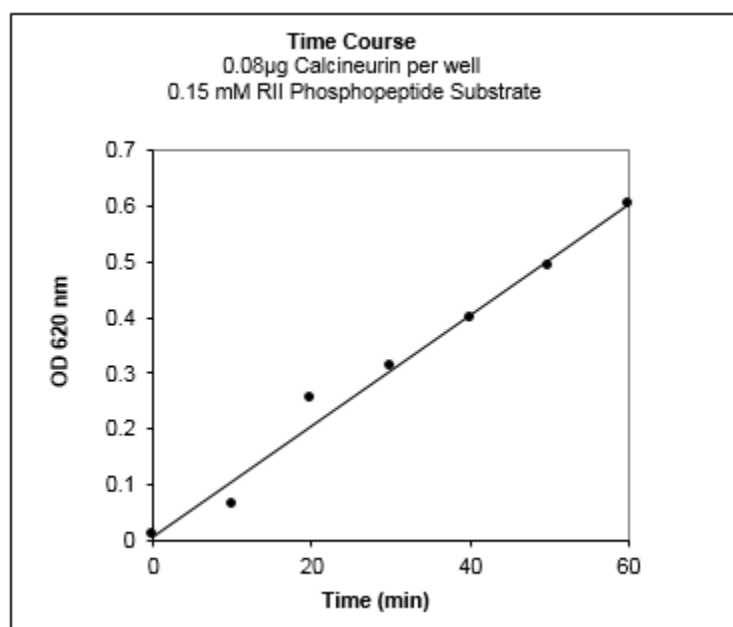

Figure 2. Time Course of Phosphate Released by Calcineurin
2. Plot OD_{620nm} versus reaction time. See Figure 2. Alternatively, the OD_{620nm} can be converted to phosphate released, as above.
3. Determine the reaction time range in which the amount of phosphate released is linear. In Figure 2, this range is from 0-60 min. This value is variable depending on reaction conditions and storage/handling of the calcineurin. The time range can be lengthened by decreasing the amount of calcineurin in the assay and lowering the assay temperature. For accurate results, it is important to perform inhibitor/agonist assays under linear assay conditions.